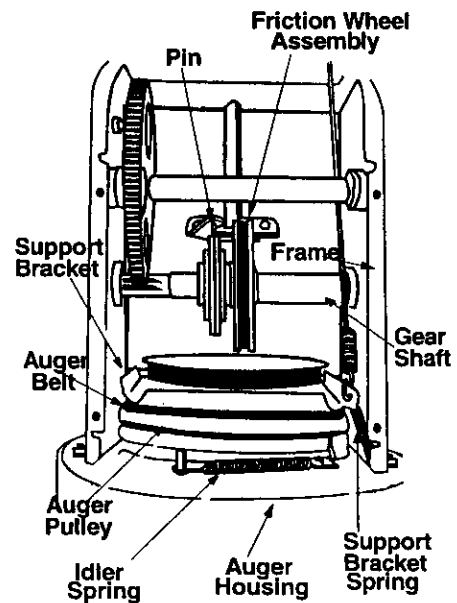

Figure 25
- Unhook the idler spring from the hex bolt on the auger housing. See Figure 25.
- Slide friction wheel assembly back onto the gear shaft. Be sure to align the pin on the shift rod with hole in the friction wheel assembly. See Figure 25.